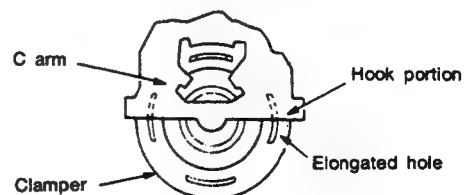

Fig. 6
(7) Replacement of the clammer (Fig. 6)